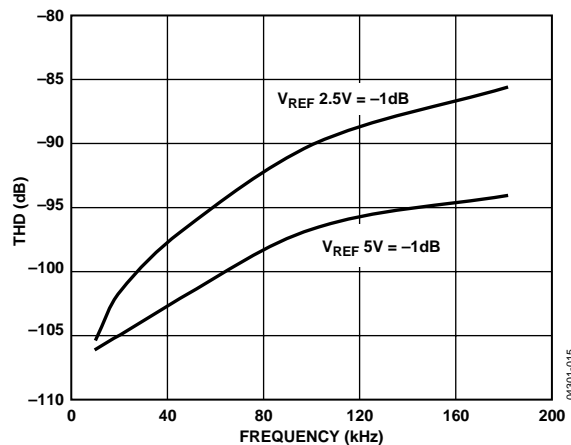

Figure 15. THD, ENOB vs. Frequency
- For ac applications, the driver needs to have a THD performance suitable to that of the AD7683. Figure 15 shows the THD versus frequency that the driver should exceed.